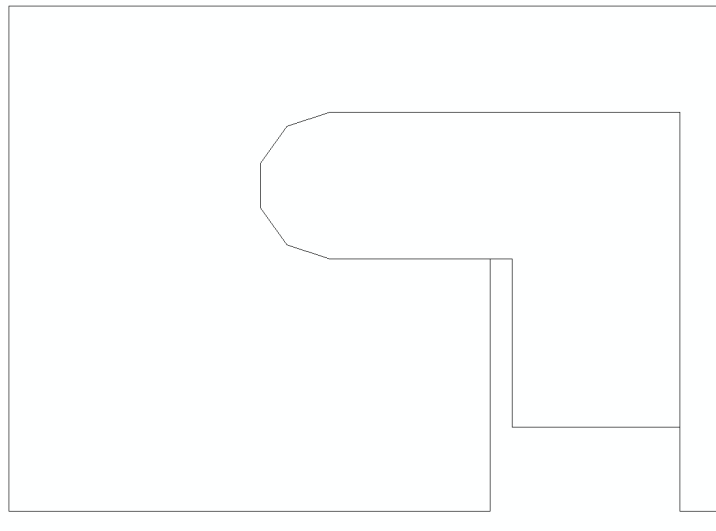

Figure 4-68
18. Using *Draw/Line/Continuous* specify the property boundary so that it looks like Figure 4-68. Select *Right-click/Snaps/Endpoint*. Place the cursor at the left top of the sidewalk left click and type **69,<90 (21,<90)** and press <Enter>. Now type **98,<0 (30,<0)** and press <Enter>. Select *Right-click/Snaps/Endpoint* then left click near the sidewalk to place the line the sidewalk on the right